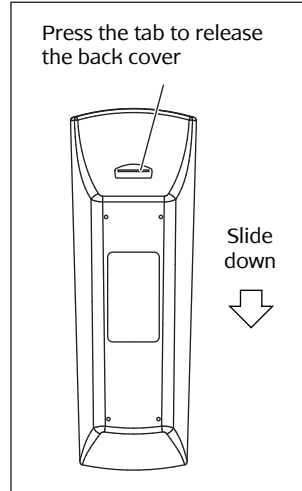

Figure 6 - Removing the back cover
- 2) Press the tab and slide the back cover down to release (refer to Figure 6).
- 1) Remove the Remote Control's back cover (Figure 6).